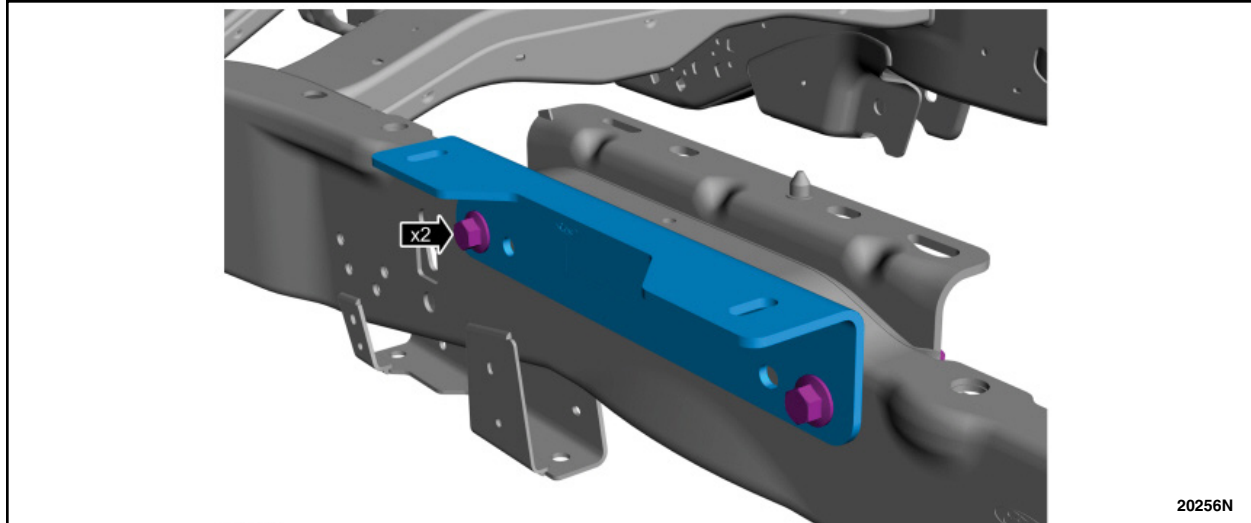

FIGURE 21
28. Remove the LH fifth wheel hitch outer bracket bolts. See Figure 21.